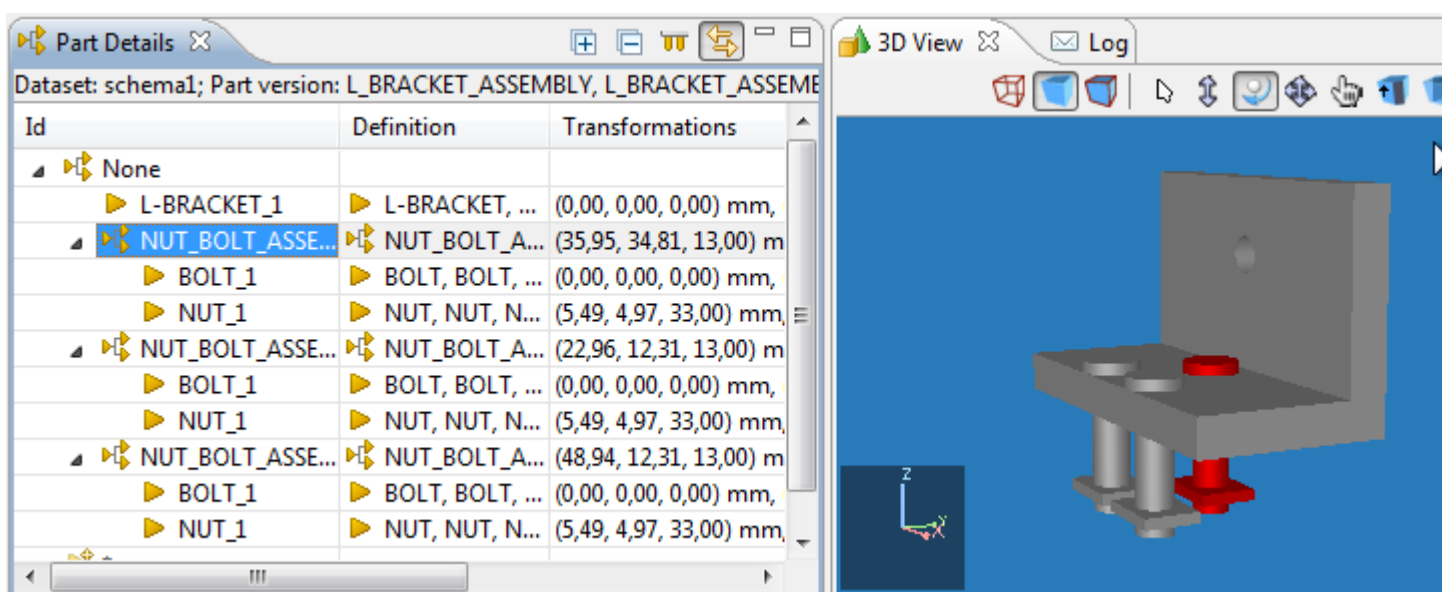

Figure 3. Selected component (bracket) is highlighted in 3D View
- Selecting an applicable component node in the **Part Details** view, highlights the particular component in the **3D View** (see Figure 3). Also an applicable component can be selected in the **3D View**. After the selection, the particular part version definition is highlighted in the **Part Details** view.